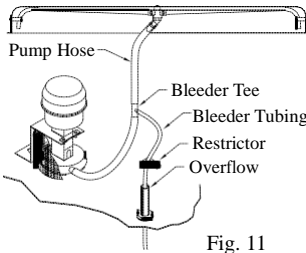

Fig. 11
- **Install Bleeder Tee and Tubing.** Refer to figure 11. Cut the pump hose and insert the barbed ends of the bleeder tee into each cut end. Insert one end of the bleeder tubing onto the bleeder tee and run the other end out of the cooler through the overflow pipe. **Note:** A restrictor clamp is provided which, if desired, may be installed onto the bleeder tubing to restrict the amount of water being bled off. The amount of water to bleed off depends on the quality of the water in your area. Start with 1-2 gal/hr and increase if needed.